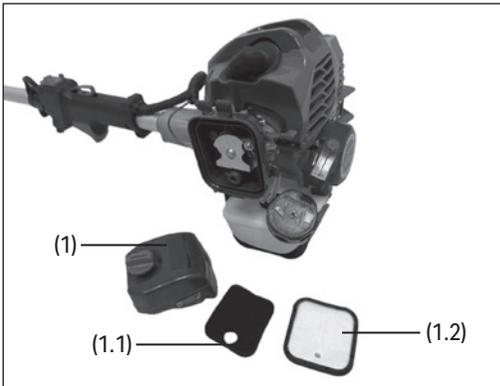

Fig.38
12.2 Cleaning the Air Filter (Fig.38)